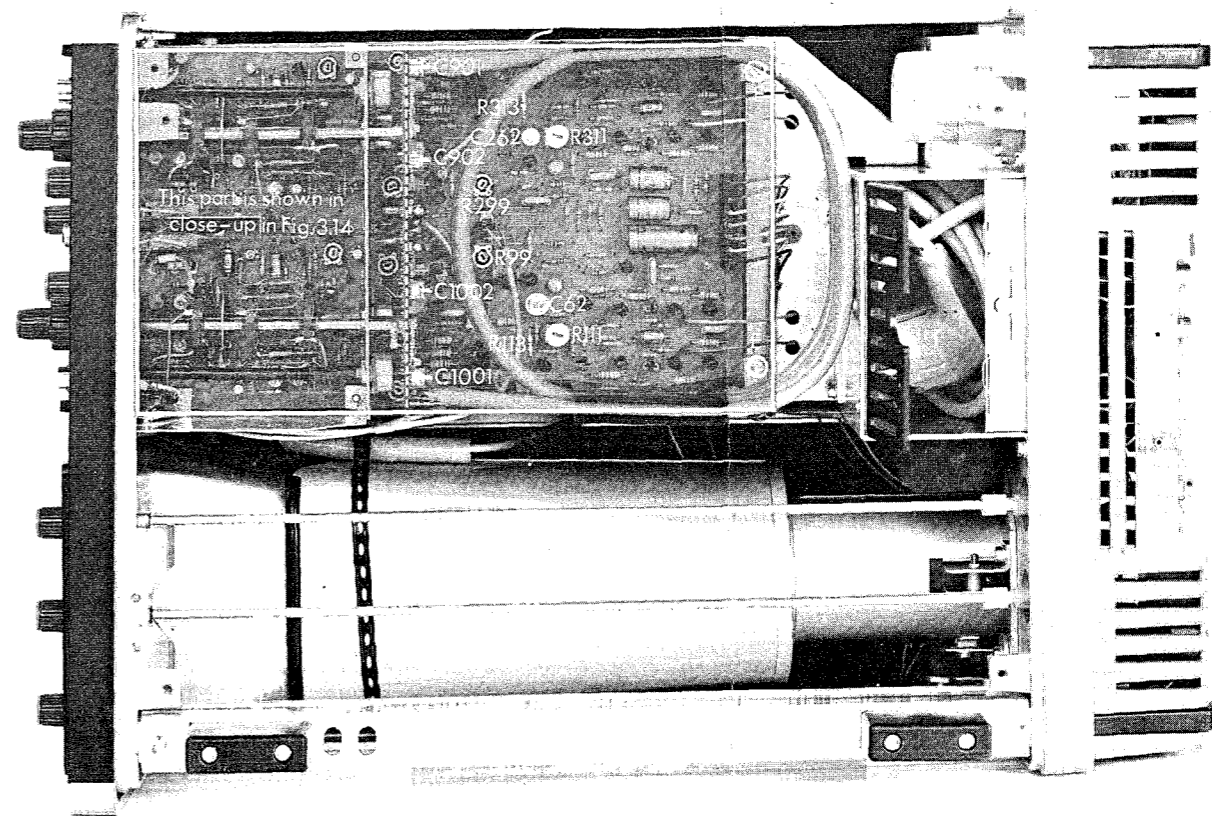

Fig. 3.13. Adjusting and dismantling
- Remove two screws E (Fig. 3.13.)